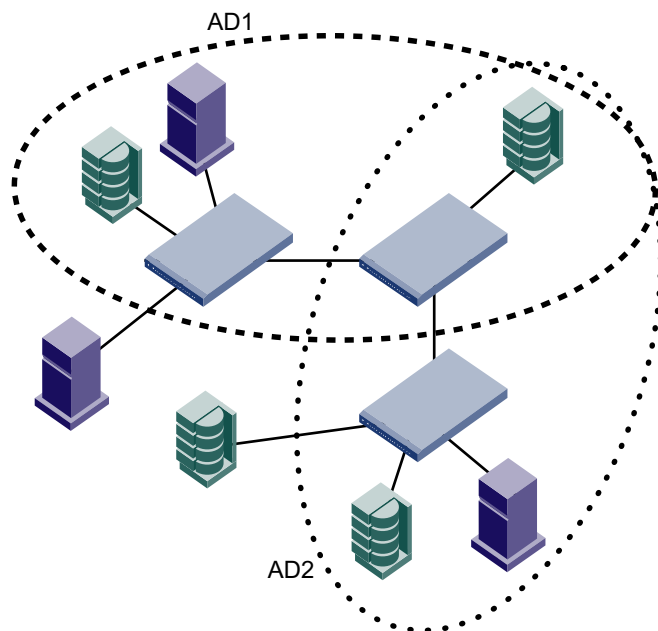
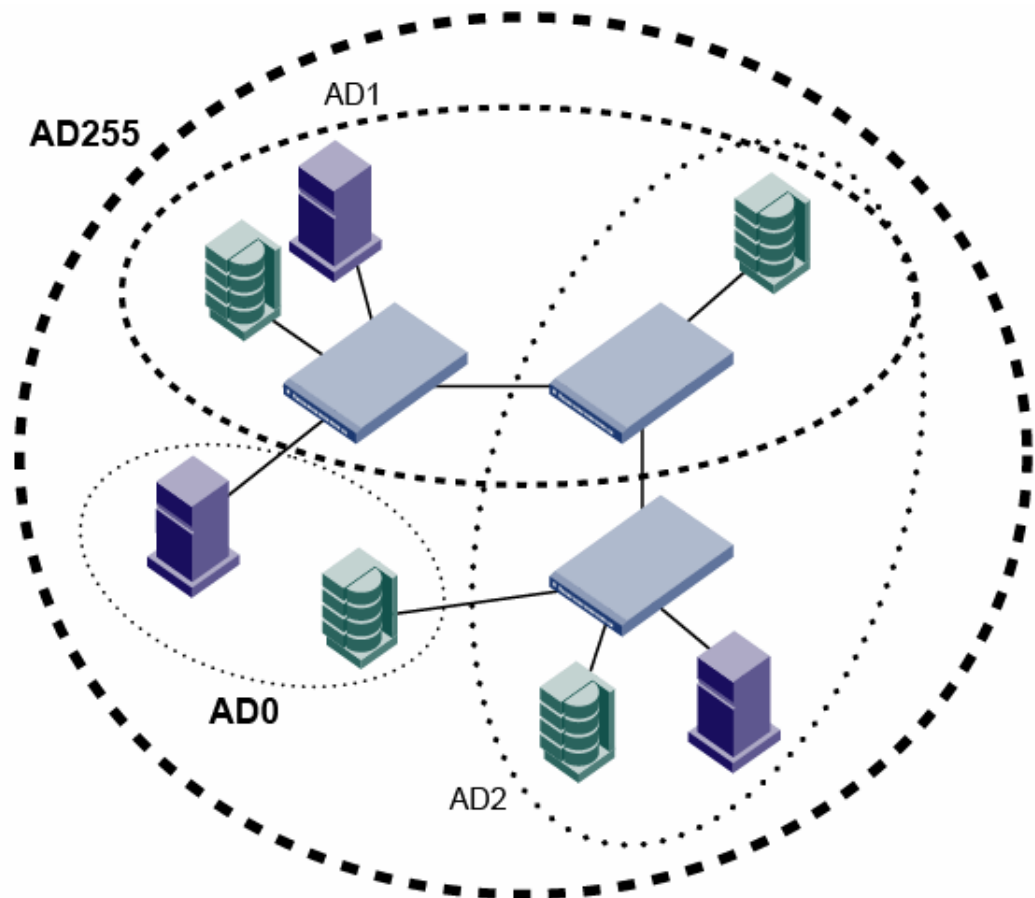

FIGURE 52 Fabric with two Admin Domains
FIGURE 54 Fabric with AD0 and AD255
Figure 52 shows a fabric with two Admin Domains: AD1 and AD2.
- Share resources across multiple Admin Domains. For example, you can share array ports and tape drives between multiple departments. In Figure 52 on page 434, one of the storage devices is shared between AD1 and AD2.
In Figure 52 on page 434, AD1 and AD2 are user-defined Admin Domains.
Figure 54 on page 438 shows the same fabric from Figure 52 on page 434, but with ADO and AD255 shown. ADO contains the two devices that are not in any of the user-defined Admin Domains (AD1 and AD2). AD255 always encompasses the entire physical fabric.